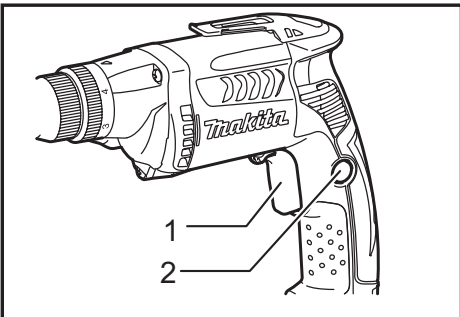

Fig.4
► Fig.4: 1. Switch trigger 2. Lock button